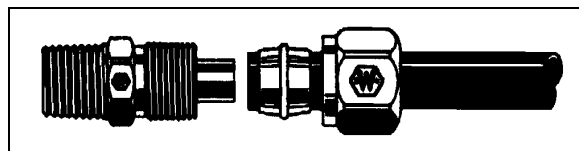

FIGURE 37: HOSE FITTING
**NTA-Type Plastic Tubing:** Hand tighten nut (Fig. 37). From that point, tighten using a wrench the number of turns indicated in the following chart.